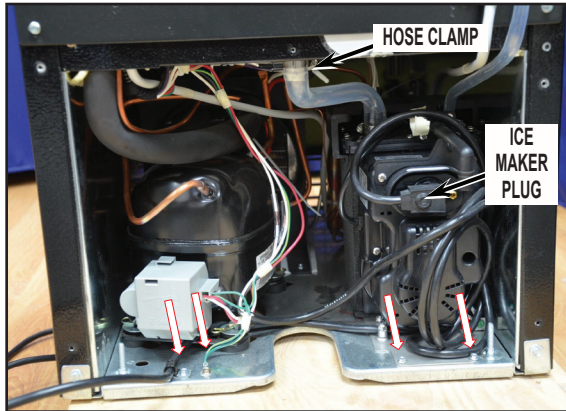

FIGURE 30
2. Remove hose clamp. See *Figure 30*.
3. Unplug the ice maker plug from the condensate pump. See *Figure 30*.
4. Remove 4 screws indicated by arrows. See *Figure 30*.